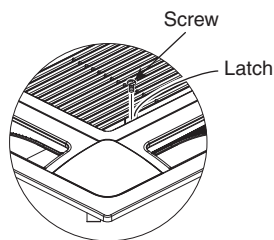

Fig. 7-14
- (1) Remove the air-intake grille and air filter from the ceiling panel.
- a) Remove the 2 screws on the latch of the air-intake grille. (Fig. 7-14) (Reattach the air-intake grille after installation of the ceiling panel.)